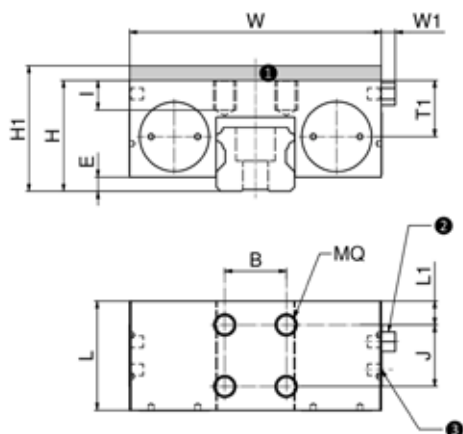

Figure 6.8 Active pneumatic clamping elements for Standard Linear Guides
Pneumatic clamping elements are available in different designs as active (NO) and passive (NC) variants. Active variants are elements that close with pneumatic pressure, while passive variants close with spring energy storage. An integrated wedge gear realizes high holding forces. The pressure medium moves the wedge gear in the longitudinal direction. The resulting transverse movement presses the contact profiles against the free surfaces of the rails with high force. The dimensions of active elements are summarized in Figures 6.8 to 6.10 and Tables 6.9 to 6.11, the passive elements in Figures 6.11 to 6.13 and Tables 6.12 to 6.14.